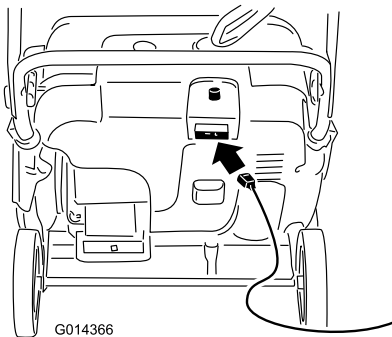
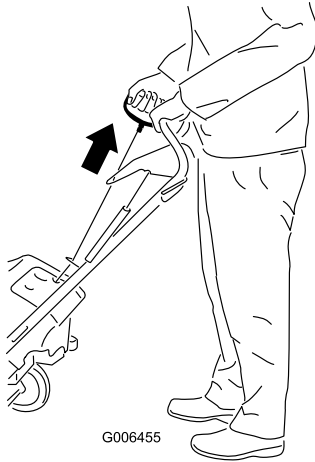

Figure 17
Figure 18
- 4. Connect an extension cord to a power source and the machine, and push the electric-start button (Figure 17), or pull the recoil start handle (Figure 18).